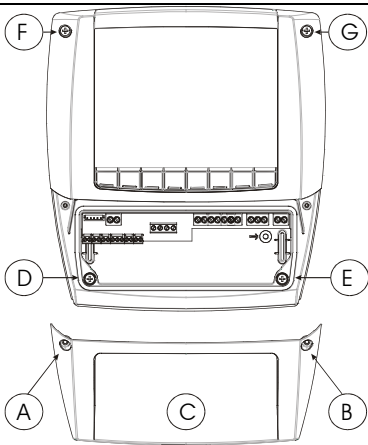

FIG. 1
1. Unscrew the 4 frontal screws (Fig. 1, A, B, F, G) and remove the cover (Fig. 1, C).
2. Unscrew the 2 screws (Fig. 1, D, E) that keep connected the frontal and lower parts of Cool Mate and separate the 2 parts.
7. Mount the frontal part using the previous 4 screws Fig. 1, D, E, F, G. (do not press excessively in order to avoid plastic deformation).
2. Unscrew the 4 frontal screws (Fig. 1, A, B, F, G) and remove the cover (Fig. 1, C).
3. Unscrew the 2 screws (Fig. 1, D, E) that keep connected the frontal and lower parts of Cool Mate and separate the 2 parts.
8. Join the back and frontal parts, with the panel in the middle, and fix them screwing the 4 screws taken previously away (dimensions 4x35 mm), in the holes of Fig. 1, A, B, D, E. Maximum panel thickness: 6mm.